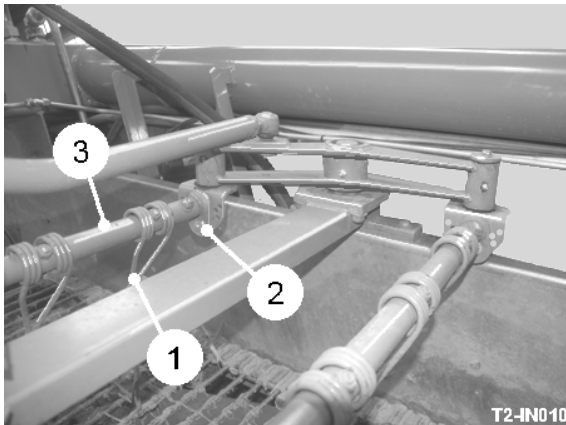

Fig 11
To set the height of the fingers (item 1, fig. 11) above the web, remove the clamp bolts (item 2, fig. 11) and rotate the mounting bar (item 3, fig. 11) until the fingers are at the required height. It is not always necessary to set both rows of clod fingers completely down, it is often better to have the second row lower than the first. In heavy green top or rubbish, the clod fingers may cause material to ball up and overload the haulm roller. If this occurs, the fingers should be lifted out of work.